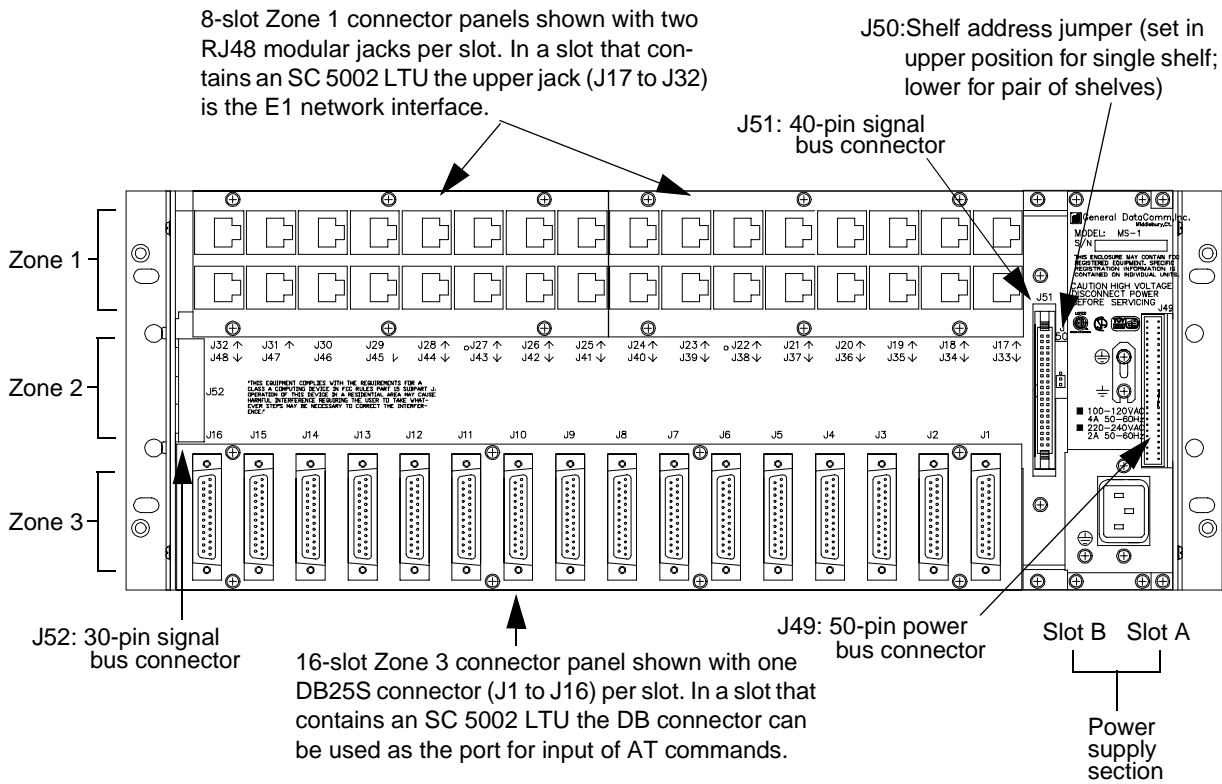

Figure 2-1 SpectraComm Shelf Back Panel
*Figure 2-1* shows the shelf back panel. In Zone 1 the back panel provides two RJ48 connectors for each shelf slot. An SC 5002 LTU employs the upper RJ48 connector for its slot as the network interface by which it can be connected to an E1 line supplied by the Telephone Company. When the LTU is operated by means of AT commands it employs the DB 25 connector in Zone 3 as the port for those commands.
The back panel of the SpectraComm Shelf has 16 RJ48C jacks, labeled **J17** through **J32**, for connections to a Telephone Company-provided E1 network. J17 corresponds to shelf slot 1 and J32 corresponds to shelf slot 16, as shown in *Figure 2-1*.
Refer to the manual supplied with the SpectraComm rack-mount shelf for information on the shelf's front panel controls, indicators, and fuses. In this manual, the rear panel of the shelf is illustrated in *Chapter 2, Figure 2-1*.